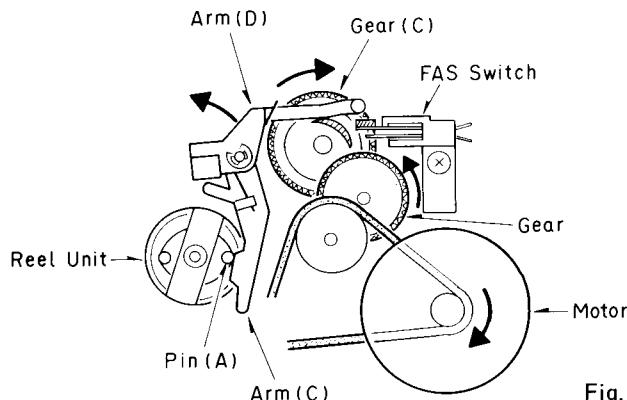

Fig. 6
2. The PAUSE lever is pressed by arm (B) and engaged by the slider.
3. The action of the PAUSE lever, via arm (G) releases the TP unit from the reel unit, and breaks contact between the pinch-roller and capstan shaft, stopping tape travel. The auto stop pin (Fig. 6, arm (C)) is locked in a depressed position, preventing Auto Stop from working.